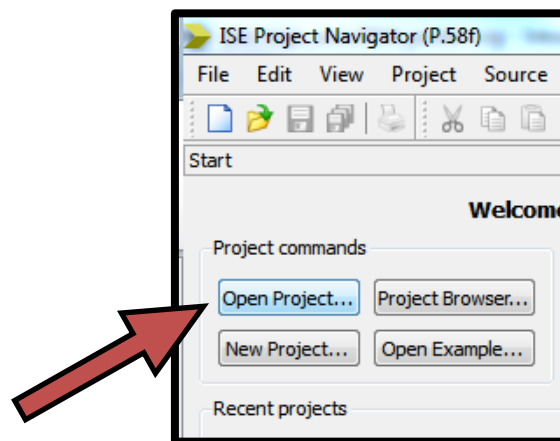

Figure 25: Clicking “Open Project...”
9. Once ISE is open, click on the button “Open Project...” on the top left corner (see Figure 25).